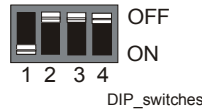

Figure 11: LDT DIP Switches
The N2 Address equals the sum of the base address and each DIP switch set to the ON position. For example, Figure 11 shows the first DIP switch (1) set to ON and the second switch (2) set to OFF; the N2 Address for that controller is 33 (32 + 1 = 33).